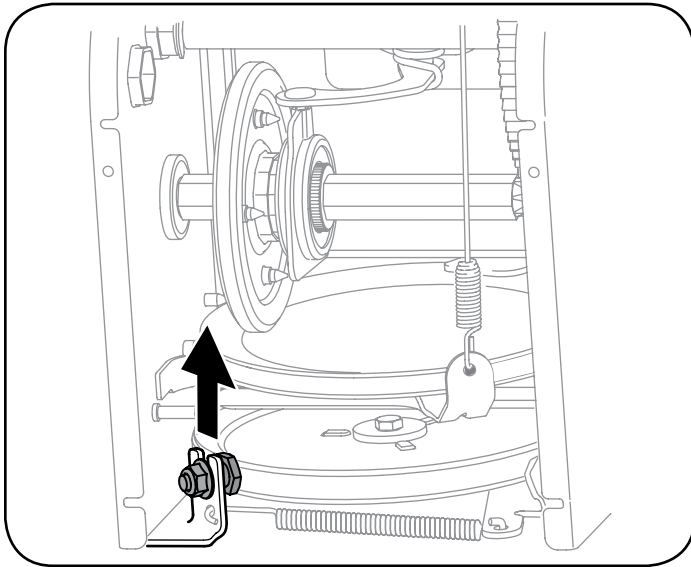

Figure 57
- Loosen and remove the shoulder screw which acts as a belt keeper. Refer to Figure 57.